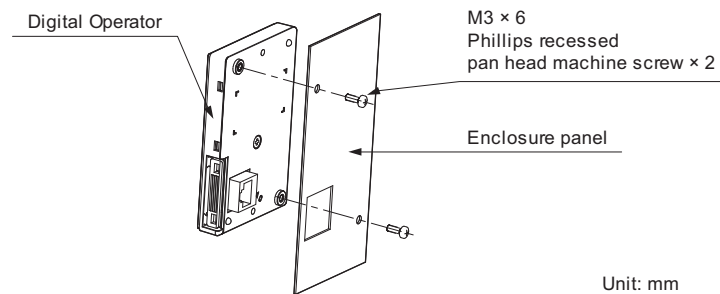

Figure 2.7 External/Face-Mount Installation
2. Position the digital operator so the display faces outwards, and mount it to the enclosure panel as shown in Figure 2.7.